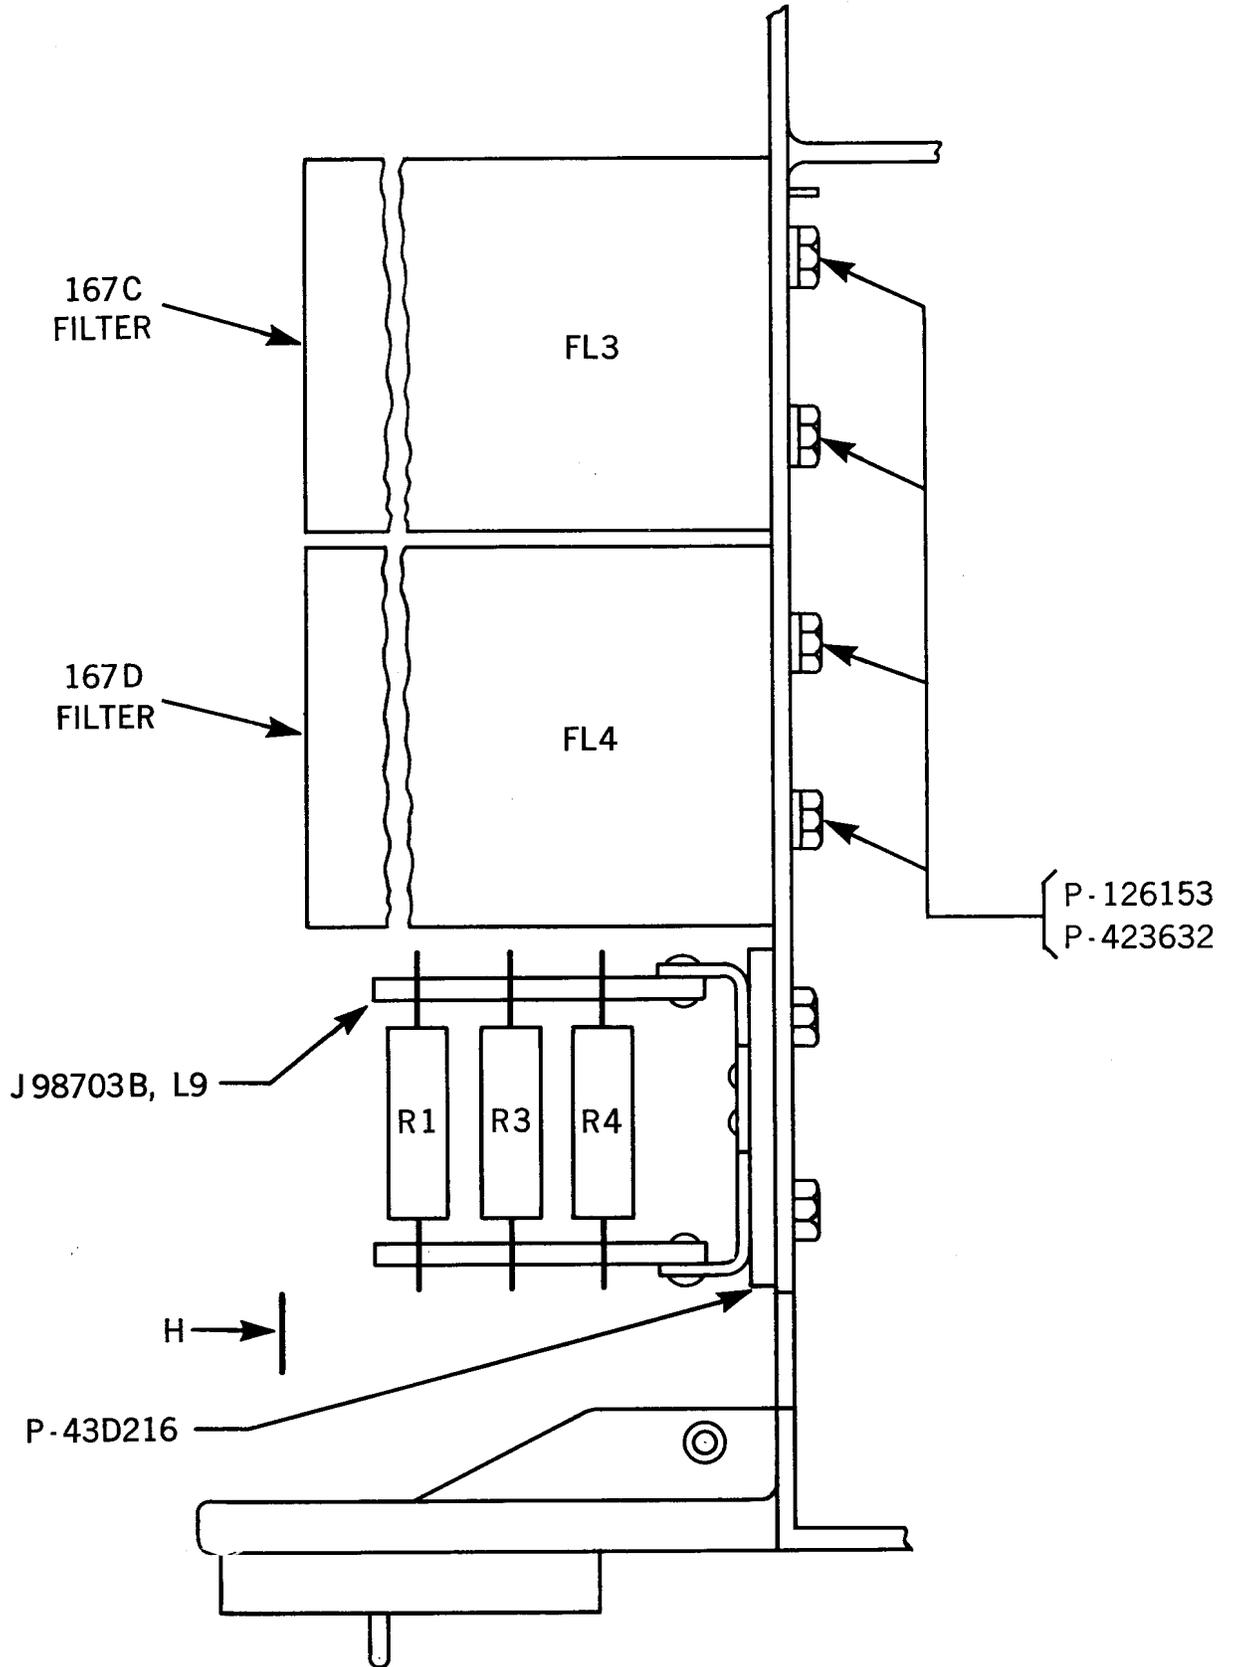
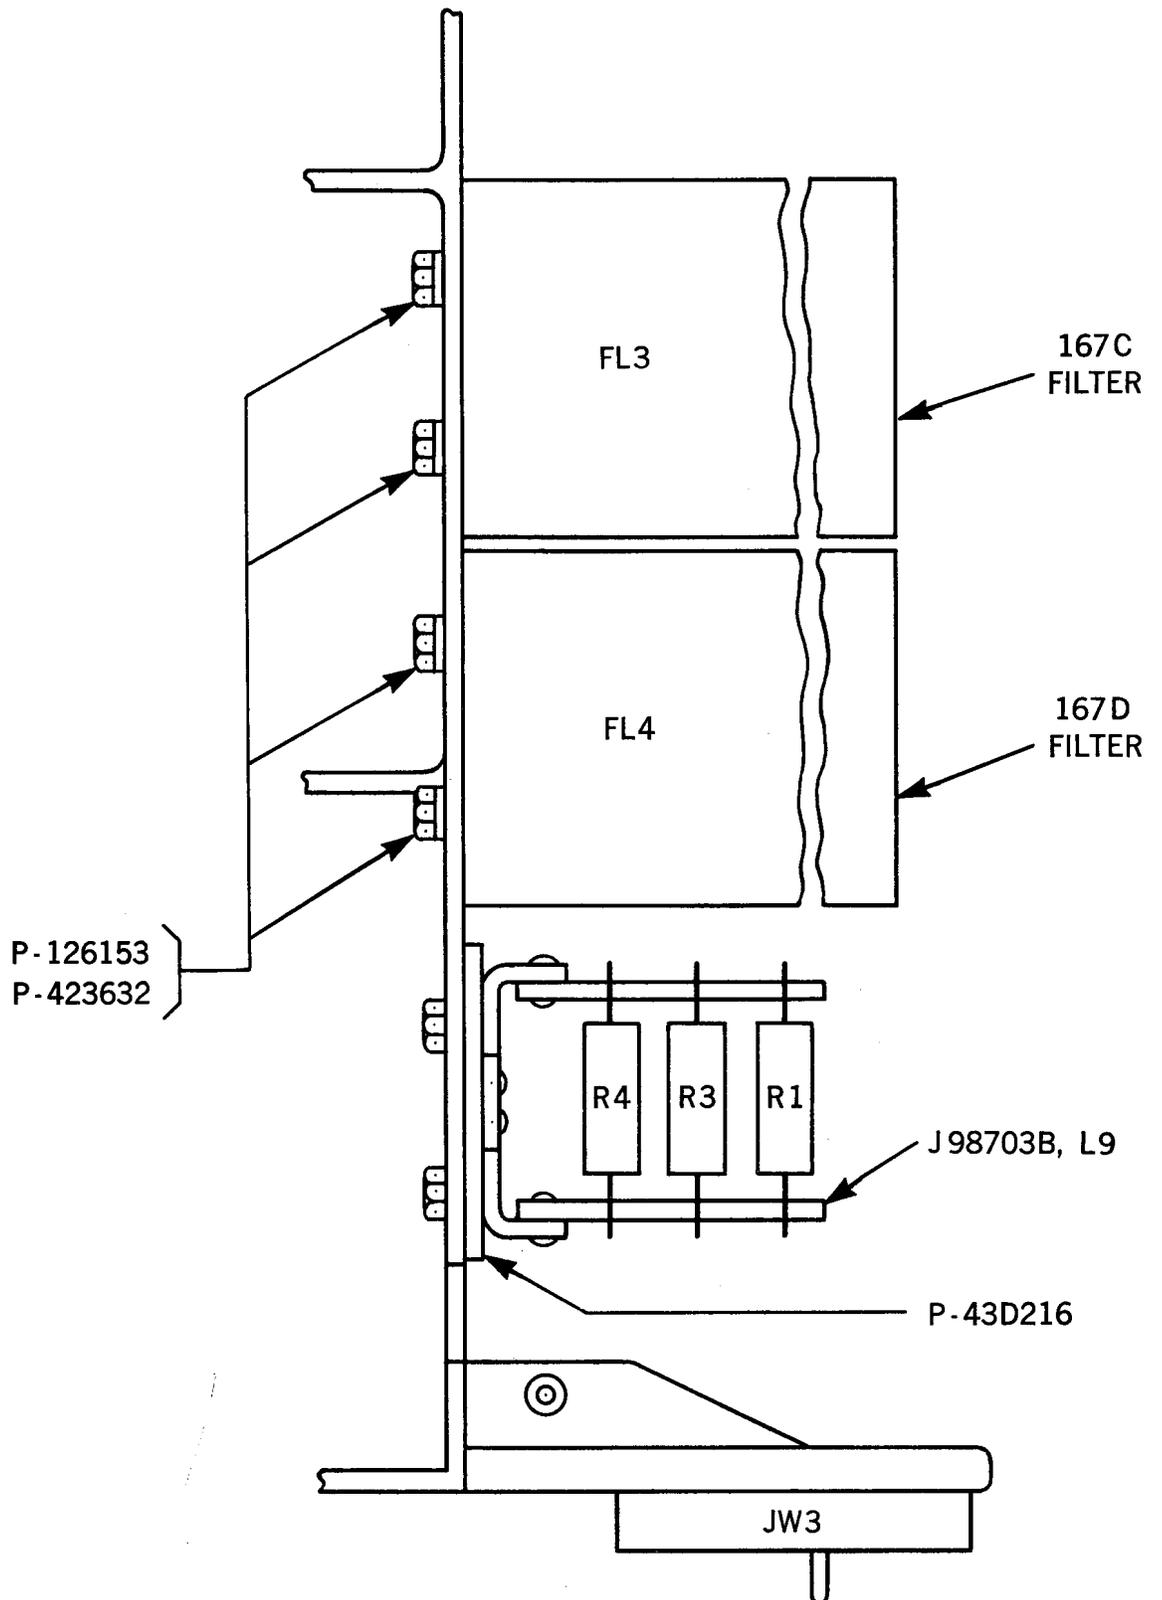

Fig. 2 - Part of L-L Subassembly per ED-92764-30 or ED-92846-30
Fig. 7 - Part of Subassembly per ED-92765-30 or ED-92860-30
3	<p>Method 1 — Adapter Plate P-43 D216 and Pad J98703B, L9 —</p> <p>(1) mount the adapter plate first and then mount the pad as shown in Figs. 2 and 3 or Figs. 7 and 8. If the pad is equipped with BL, BL-W and OR, OR-W leads, these should be unsoldered and discarded.</p> <p>(2) locate the G, G-W paired leads connected to terminals 0 and 1 of the JE or JW jack. Dress these leads along paths E and D shown in Fig. 5. Cut excess length and connect the G lead to R1 and the G-W lead to R4 of the pad.</p>
4	<p>(3) locate the G, G-W paired leads connected to terminals 3 and 1 of transformer T5. Dress these leads along paths B and D, cut off excess, and connect the G wire to R2 and the G-W wire to R5 of the pad.</p> <p>(4) unsolder capacitor C10 (3900 uuf) from terminals 3 and 1 of transformer T5 and replace with the 6800 uuf capacitor.</p> <p>Filters 167C (FL3) and 167D (FL4) —</p> <p>(1) mount and assemble the filters as shown in Figs. 2, 3 and 4 or Figs. 7, 8 and 9.</p> <p>(2) connect a G lead to terminal 6 and a G-W lead to terminal 4 of transformer T5. Dress these leads along paths B and C of Fig. 5 and connect the G lead to terminal 5 of FL3 and the G-W lead to terminal 7 of FL3.</p> <p>(3) strap terminal 6 of FL3 to terminal 5 of FL4 and terminal 7 of FL3 to terminal 7 of FL4.</p> <p>(4) locate the G, G-W paired leads connected to terminals 1 and 3 of transformer T3. Dress these leads along path F of Fig. 5 and connect the G lead to terminal 6 of FL4 and the G-W lead to terminal 7 of FL4. This completes the wiring of the filters.</p> <p>(5) unsolder capacitor C18 (130 uuf) from terminals 1 and 3 of transformer T3 and replace with the 200 uuf capacitor.</p> <p>(6) unsolder the G, G-W paired leads from terminals 12 and 13 of the JE or JW jack. Locate the G, G-W paired leads connected to terminals 3 and 1 of transformer T4. Dress these leads along paths A, C and E of Fig. 5 and connect the G lead to terminal 12 and the G-W lead to terminal 13 of the JE or JW jack.</p>
6	<p>Method 2 — Adapter Plate P-43 D216 and Pad J98703B, L9 —</p> <p>(1) mount the adapter plate first and then mount the pad as shown on Figs. 2 and 3 or Figs. 7 and 8. If the pad is equipped with BL, BL-W and OR, OR-W leads, unsolder the OR, OR-W leads from the pad and discard.</p> <p>(2) unsolder the G, G-W paired leads from terminals 0 and 1 of the JE or JW jack. These leads are then connected to the pad with the G lead connected to R2 and the G-W lead connected to R5 of the pad. Dress the BL, BL-W paired leads of the pad along paths E and D of Fig. 5 and connect the BL lead to terminal 0 and the BL-W lead to terminal 1 of the JE or JW jack.</p> <p>(3) remove the G1 stamping and restamp the unit G2; i.e., ED-92846-30, G2 or ED-92860-30, G2.</p>